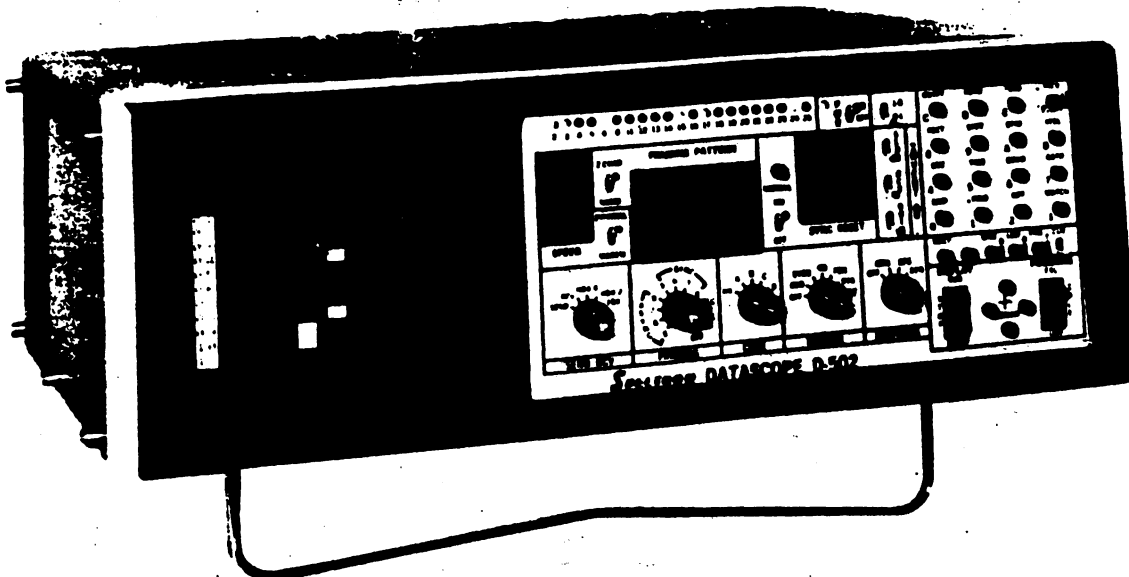
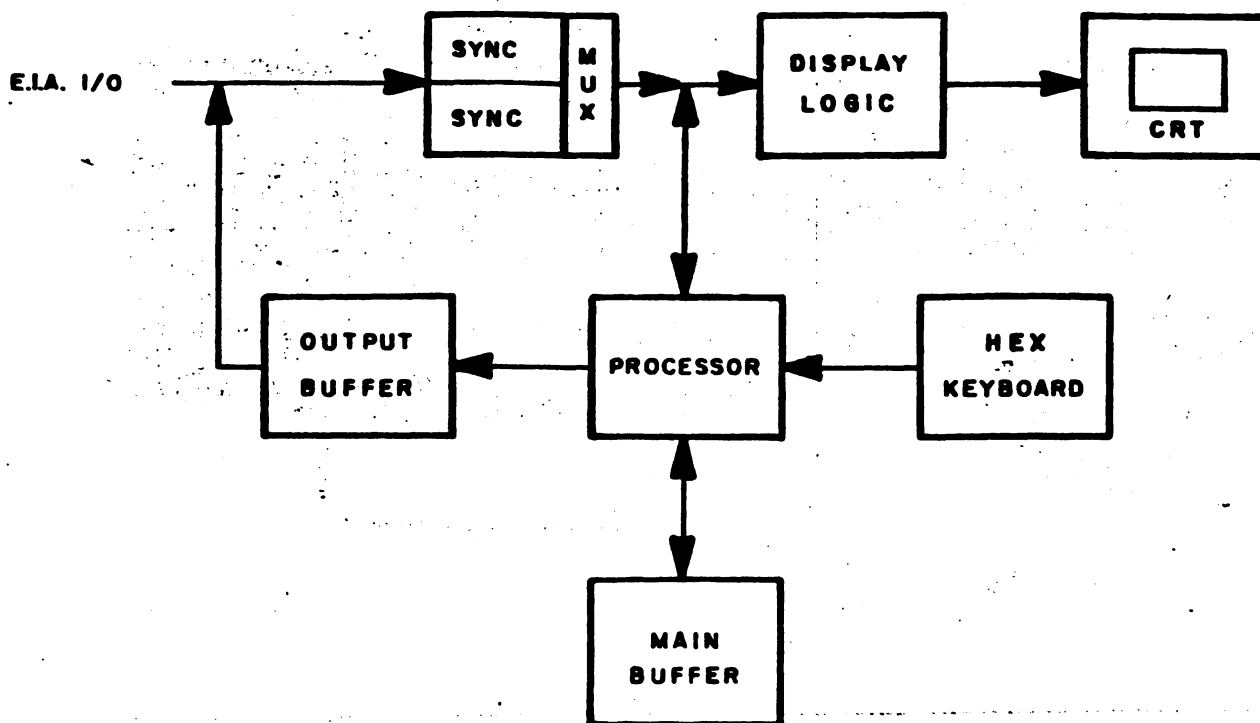

Figure 1. DATASCOPE Model D-502
Figure 2. Block Diagram
The Spectron DATASCOPE Model D-502 (Figure 1) is a versatile, microprocessor-based test instrument for interactive troubleshooting and monitoring of data communications channels. It is similar to the D-501, but with an output buffer and an output instruction added to permit interactive operation and transfer of programs. It provides a CRT display of all traffic at the business machine (EIA RS-232) interface of any standard modem. It is compatible with most forms of data transmission, whether synchronous or asynchronous, and it operates at any speed up to 72 KBPS. It may be connected to the data link directly or, for monitoring only, through a remote connection unit which bridges the interface and provides electrical isolation and signal level conversion without adding cable length or increasing electrical loading. The block diagram (Figure 2) shows internal DATASCOPE components.
--SEND OR RCV: These switches reverse the electrical polarity of signals delivered to the sync logic (see Figure 2). Down=normal polarity.